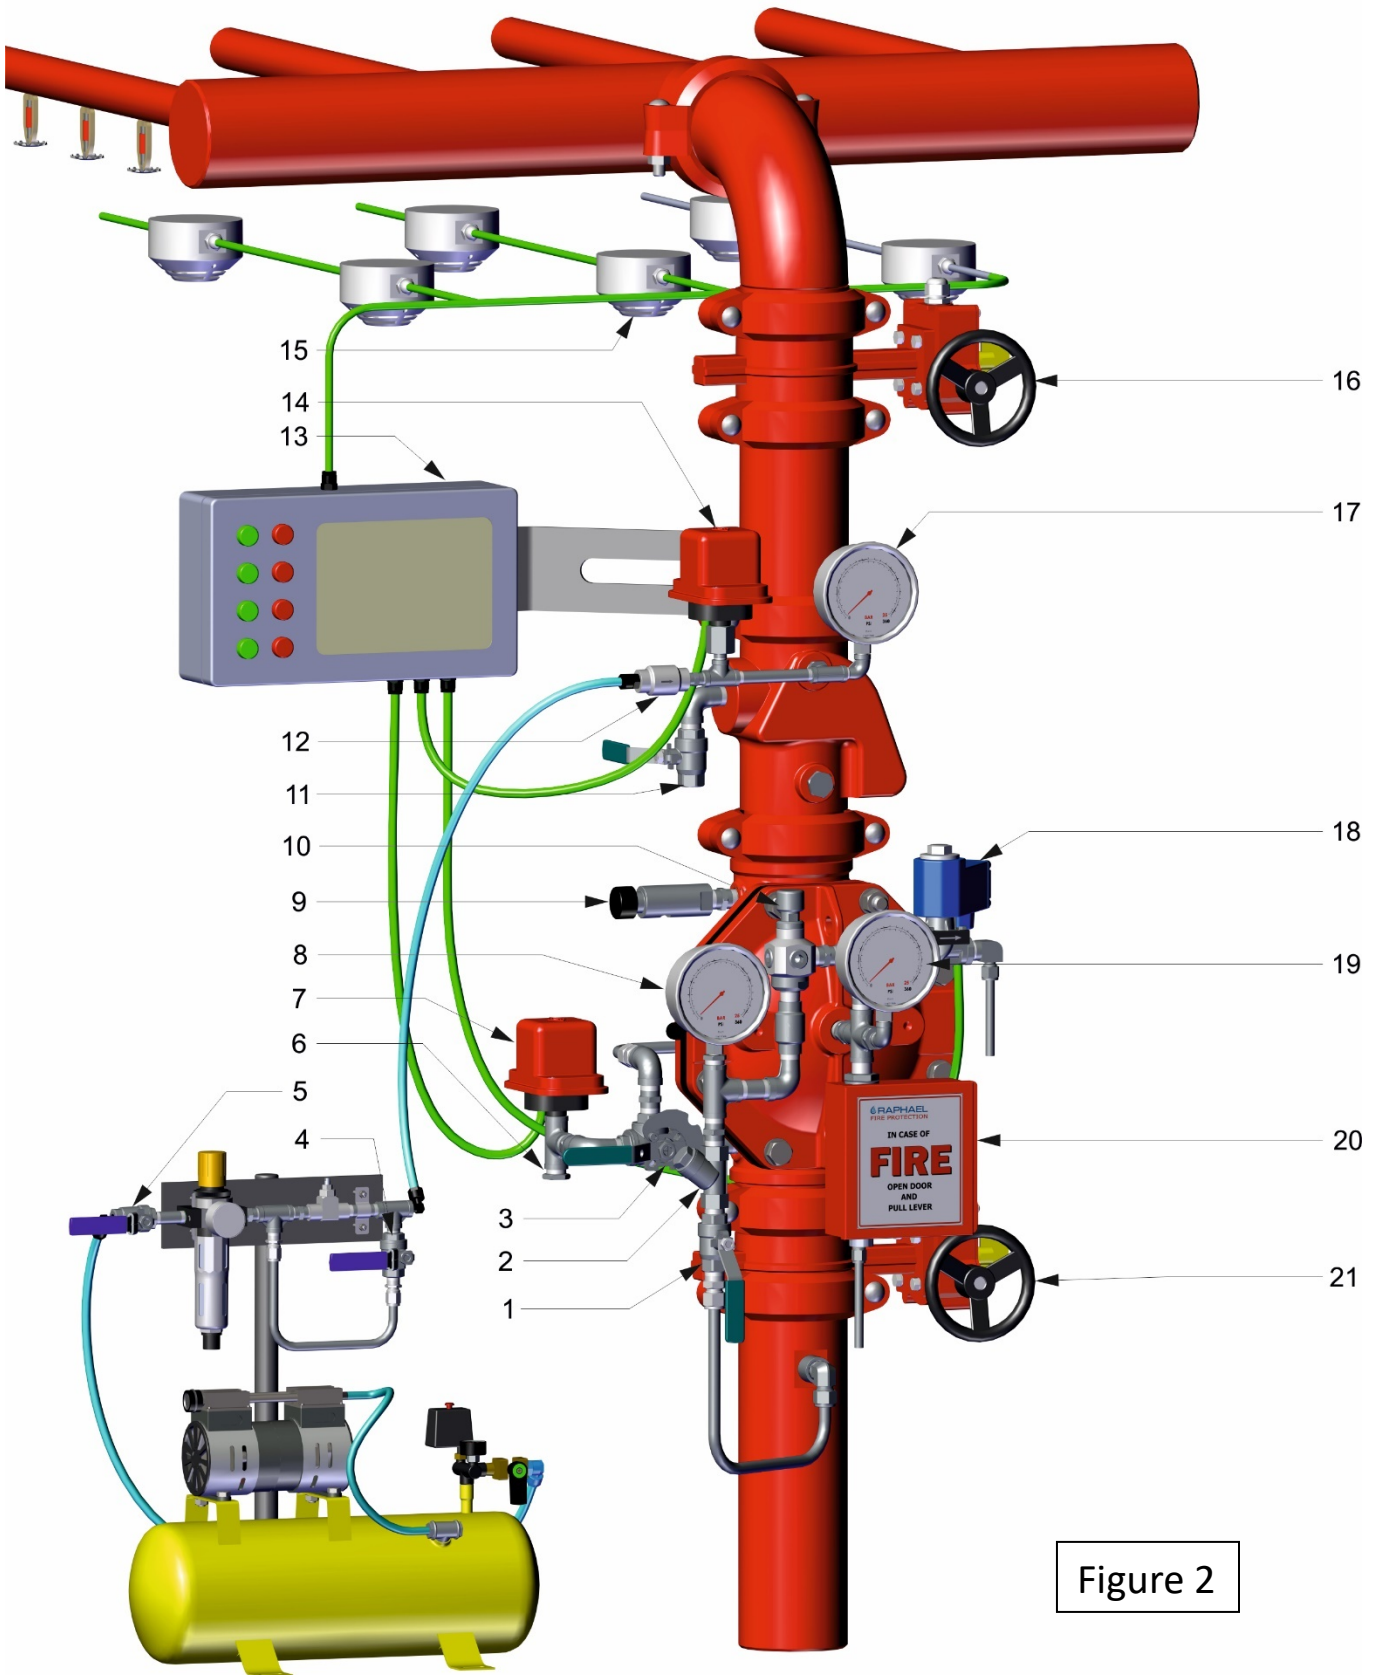

Figure 2
Series of smoke/Heat detectors are installed over the protected area and connected electrically to the main FP control board (13 figure 2).
Installation (reference - figure 2)
9. All connections to water supply, alarms etc. should be done in accordance with figure 2:
(reference - figure 2)
(Reference drawing - figure 2)
After a real fire situation, make sure that the SOV is closed by de-energizing its coil (through the FP main control board). (Reference drawing - figure 2)